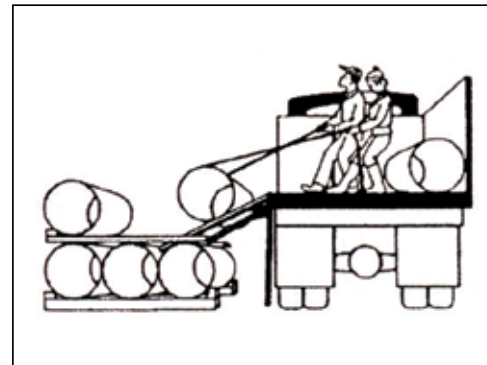

Figure 3: Unloading using timber slide.
- In case of clustered packages of pipes with more than 6 meters in length, at least four-leg sling or plank supported and suitable arm cranes must be used during unloading. The same method should be used if pipes are unloaded one by one. If the unloading is done on a flat surface, it may be more practical to use skids and rope slings. (See Figure 3)